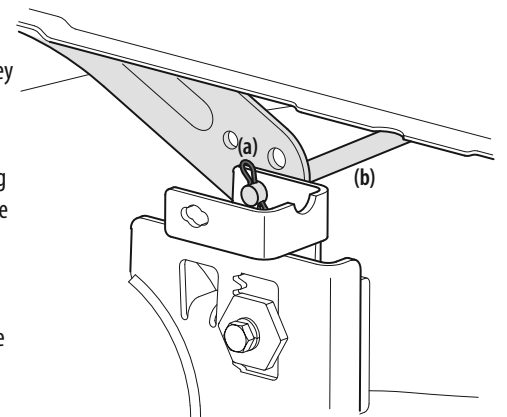

Figure 30
5. Looking at the cutting deck from the left side of the tractor, locate the bow-tie pin (a) that secures the deck support rod (b) on the rear left side of the deck. See Figure 30. Remove the bow-tie pin (a) that secures the deck support rod (b), and carefully remove the deck support from the deck lift arm.